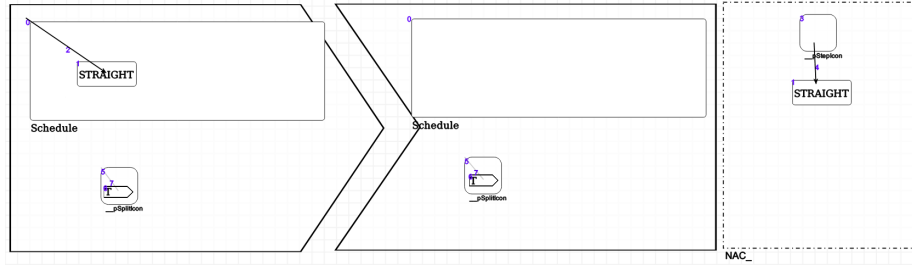

Figure 6: Transformation rule for setting switch on splits
- Split: to set the switch for splits, we look at the train schedule of the train that is currently on this split. This schedule will tell us in which direction we should move. (see figure 6)